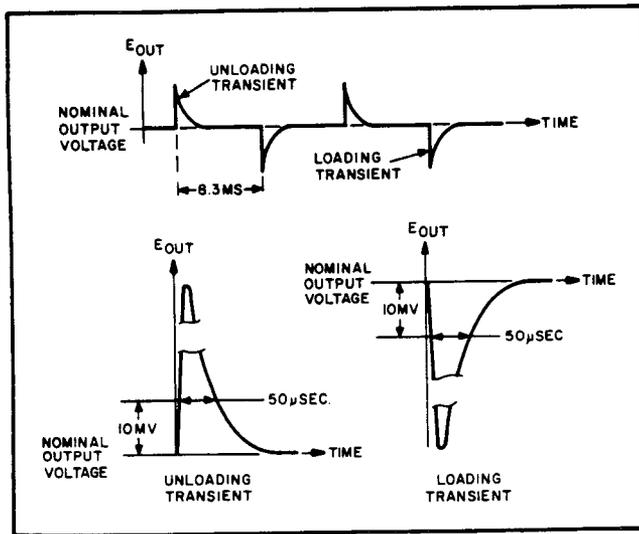

Figure 5-6. Transient Recovery Time Waveforms
k. Starting from the major graticule division representative of time zero, count to the right 50µsec and vertically 10mV. Recovery should be within these tolerances as illustrated in Figure 5-6.